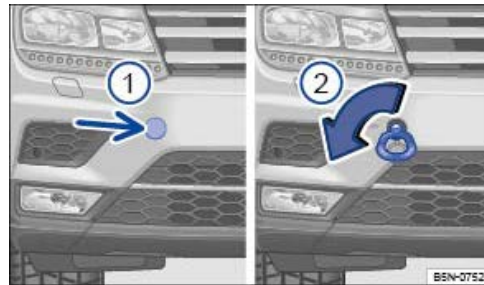

Fig. 249 In the front bumper, right-hand side: towing eye.
The towing eye is screwed into a threaded hole behind a cover on the right of the front bumper (arrow) → Fig. 249.
- Press at the side of the cover → Fig. 249  to release the cover fastener.
- Turn the towing eye → Fig. 249  as shown by the arrow into the threaded hole and tighten as far as possible → . Use a suitable object to screw the towing eye fully and securely into the mounting.